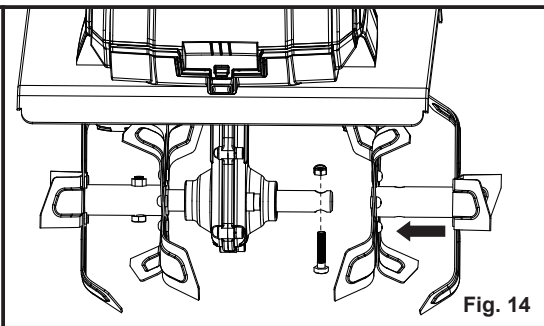

Fig. 14
2. To replace the tine blades, push the tine blades onto the drive shaft. The hole on the tine blades must be towards the drive shaft. Make sure that the holes of the tine blades and the drive shaft are aligned (Fig. 14). Insert the bolt through the hole and fix it with the nut. Tighten the nut with a wrench. Make sure the nut is on the correct way. Do this with both tine blades.